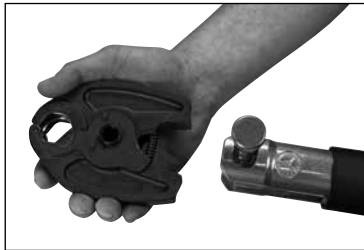

Figure 5 — Inserting the NIBCO Press System jaw
4. Select the jaw set that corresponds to the size of the joint to be crimped and insert the jaw set into the pressing tool (*Figure 5*).